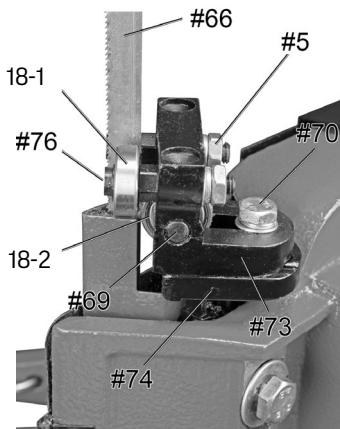

Fig. 18
1. Check that the Blade Guide Bracket Seats (#67, 74) are clear of the Saw Blade. There should be from 0.000 in. (just touching) to 0.001 in. clearance between the Saw Blade and Blade Guide Bearings (Fig. 18).